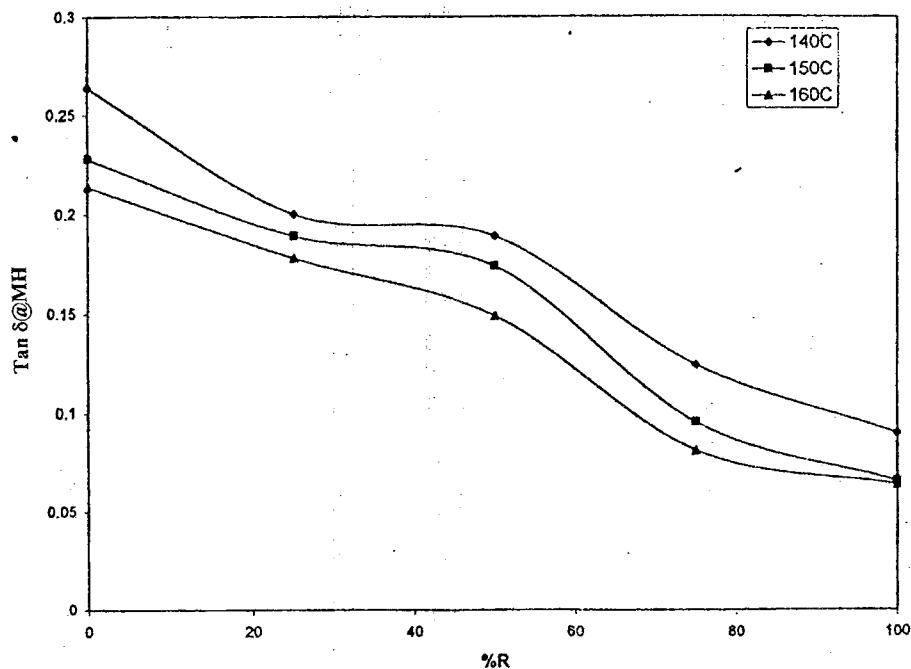

Figure 1: The relationship between $\tan \delta$ at MH and ENR 50 composition (% R) for various SBR/ENR 50 blends at different curing temperatures.
- [b] Figure 1 shows the relationship between $\tan \delta @ MH$ and ENR 50 composition (% R) for various SBR / ENR 50 blends at different curing temperatures. Explain the results obtained.